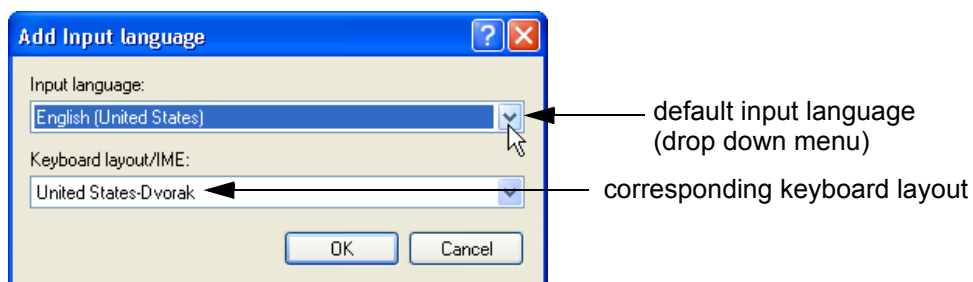

Figure 6-14 Default Keyboard Settings and Input Locale Properties
**NOTE:** If the desired language is not listed, click the ADD button, choose the desired input language from the drop down menu, as shown in Figure 6-14 below, and then confirm with OK. (The corresponding keyboard layout is shown automatically.).